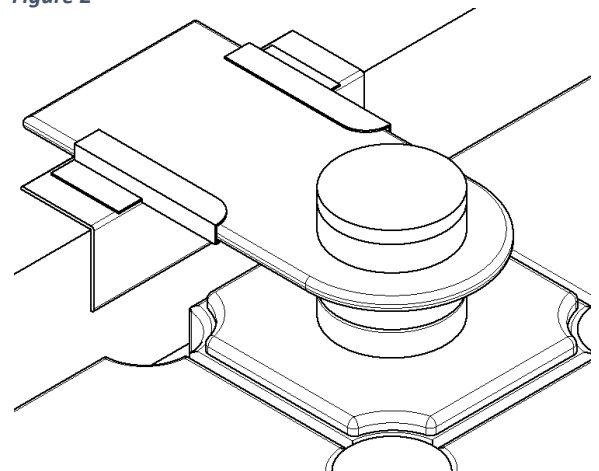

Figure 3
4. Slide an SPMP Modular Cube System Post into each of the Modular Cube Stabilizers and secure to the SPMP Slide Guide per the SPMP Instructions For Installing Pile Slide/Guide. See Figure 3.